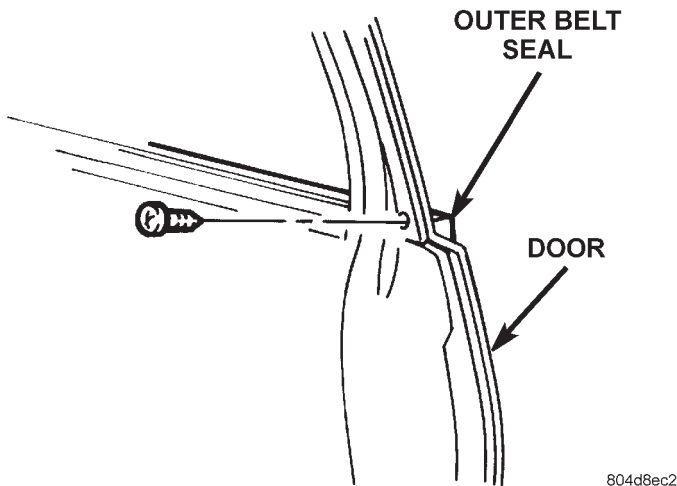

Fig. 35 Rear Door Outer Belt Seal
- (1) Lower window glass.
- (2) Remove screw from inner door panel attaching seal to outer door panel (Fig. 35).
- (3) Lift seal upward and separate from door.